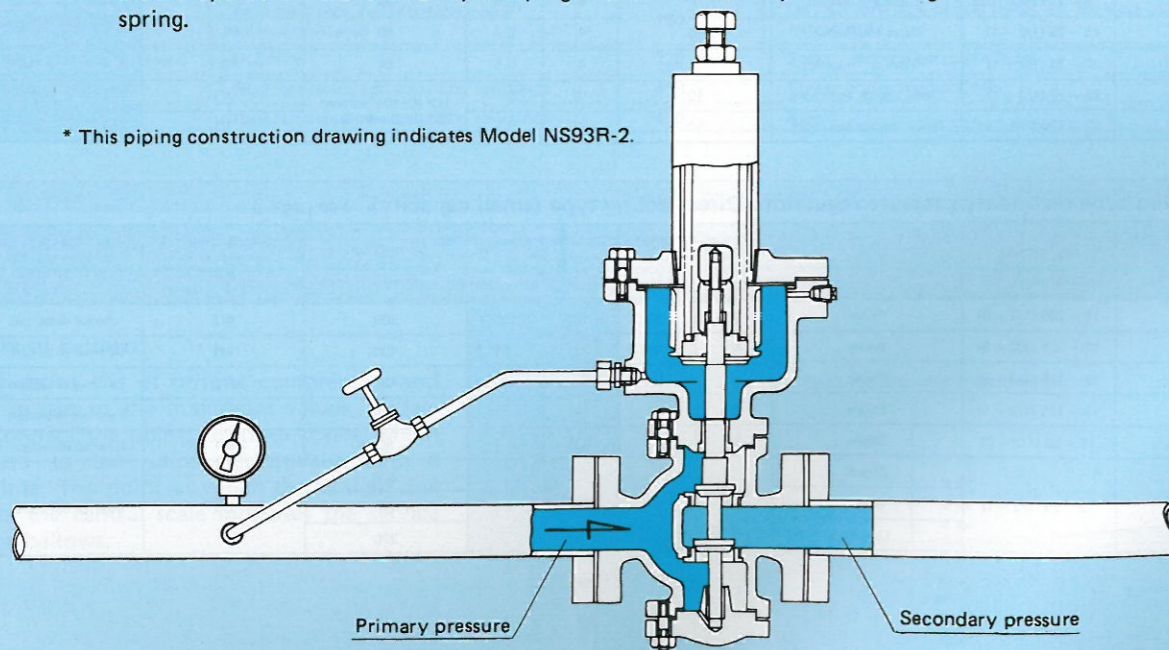

Fig. 5.1
- * Detection of Pressure: Detect the primary pressure at the detection hole shown in the construction drawing, by means of a union joint and a guiding tube. (See Fig. 5.1 on page 5, and page 41.)